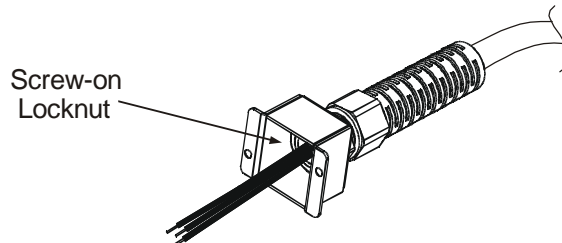

Fig.3-2: Stripped Wires installed in Strain Relief
3. Slide the helix-shaped body onto the AC cable. Insert the stripped wires through the strain relief base until the outer cable jacket is flush with the edge of the base. Tighten (16-18 Lb-inch.) (18 - 20Nm) the body to the base while holding the cable in place. Now the cable is securely fastened inside the strain relief. Refer to Fig. 3-2.